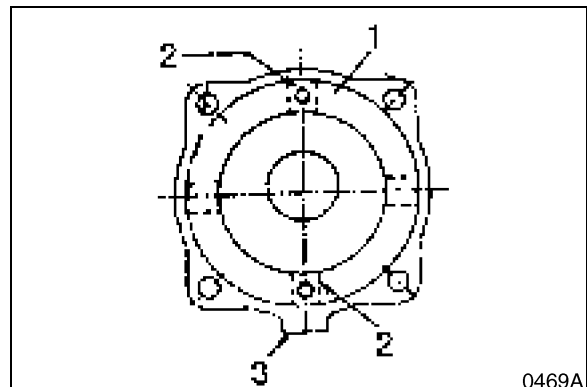

Figure 43
14. Position brake piston (1, Figure 43) in casing. The diagram shows position of four piston grooves (2) in relation to valve connected side (3), and two 8 mm bolts which should be tightened in an even, progressive rotation.